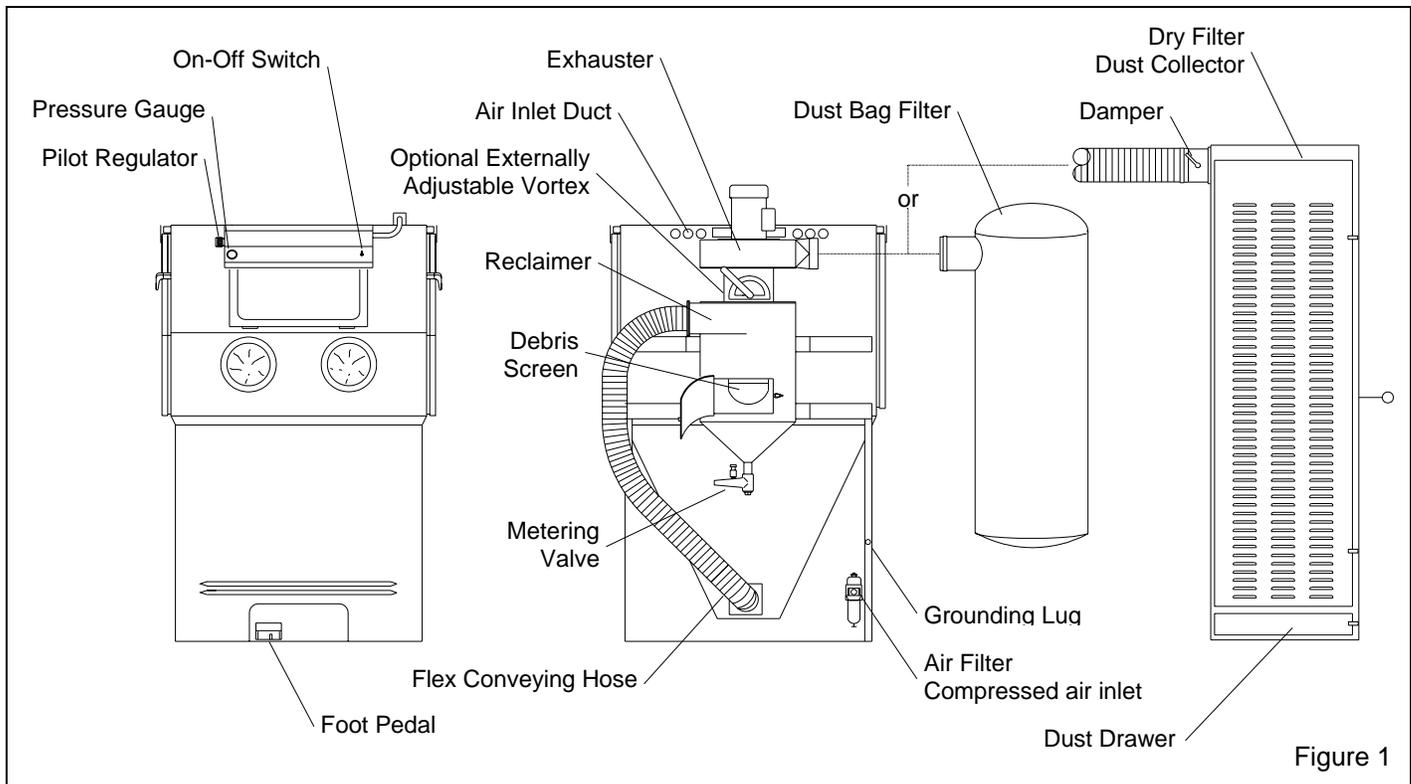
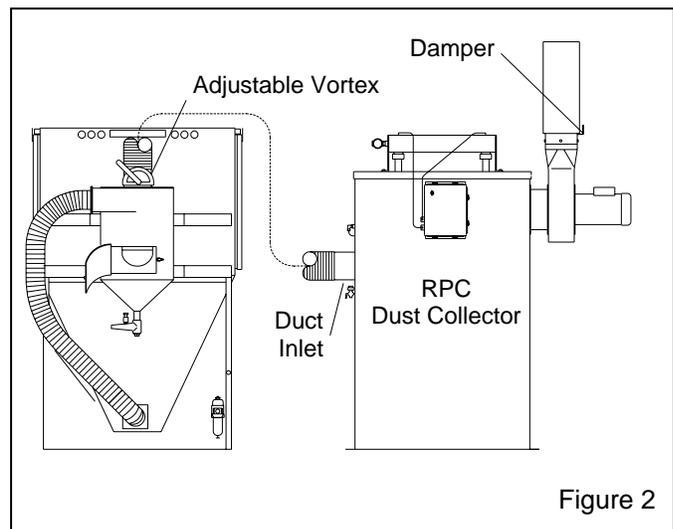

Figure 1
Figure 2
See Figure 1 for arrangement of components with a dry filter. Figure 2 shows the arrangement with a reverse-pulse dust collector.
2.1.1 See Figure 1 (and Figure 2 for optional reverse-pulse collector) for the general arrangement. Place all components in a convenient location where compressed air and electrical service are available. The cabinet location must comply with OSHA and local safety codes. Allow for full access to all doors and service areas, and for efficient handling of large parts. Provide enough clearance in front of the dust collector to remove the dust drawer without tipping. Determine the best location, and position all units before final assembly.